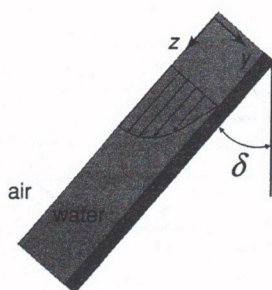

Figure 3.38
31. For the Cartesian coordinate system shown in Figure 3.38, what is a unit vector in the direction of gravity? What is the component of gravity in the flow direction?